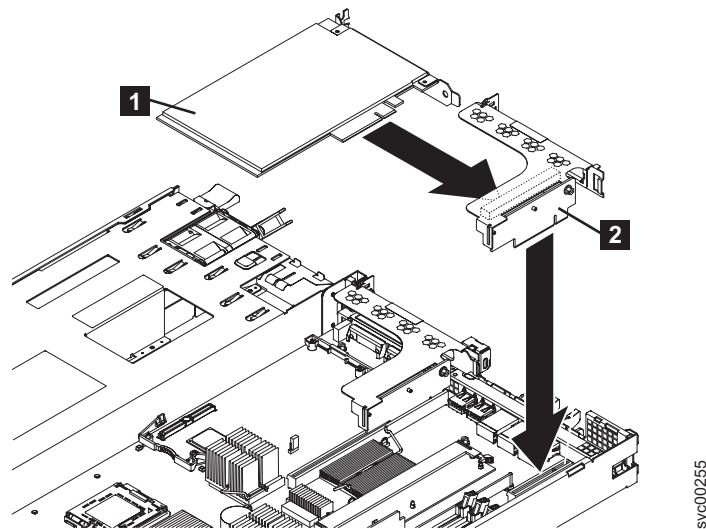

Figure 192. Removing the riser-card assembly from the SAN Volume Controller 2145-8G4
6. Grasp the riser-card assembly (2 in Figure 192) at the rear edge and lift to remove the riser-card assembly.